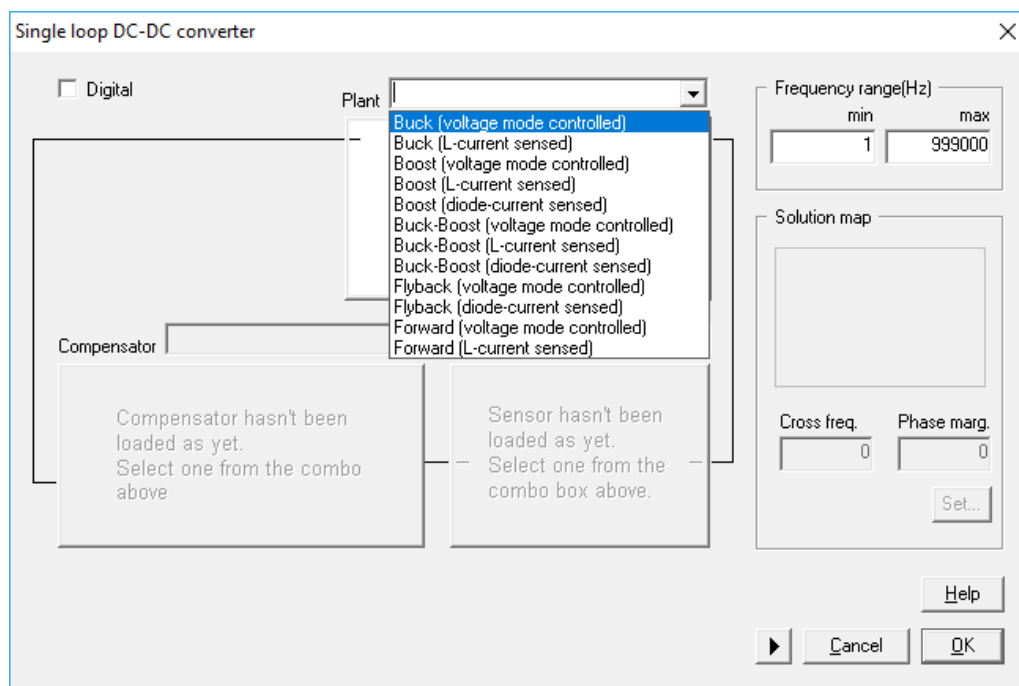

Figure 4: Defining the converter analog topology
3. Select a buck converter and parametrize it as follows. See Figure 4 and Figure 5.